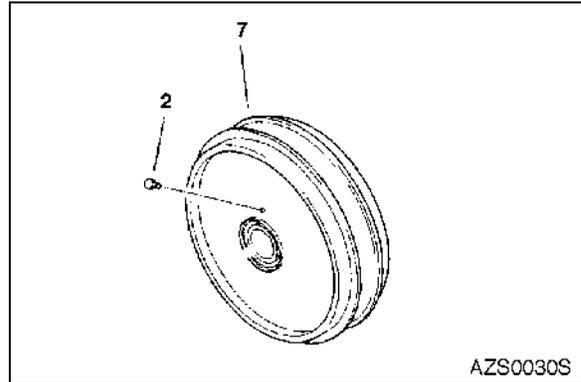

Figure 20
1. Remove plug (2, Figure 20) and drain oil from idler (7, Figure 20).